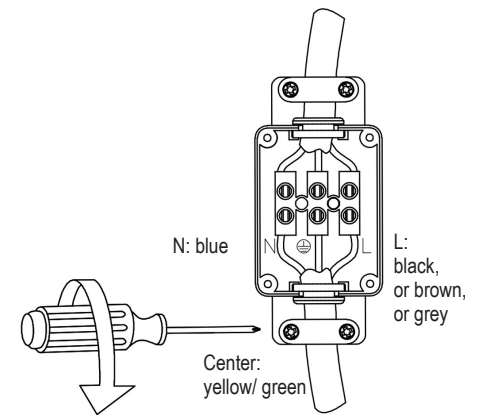

fig. 2
**fig. 2:** Prepare the cable in according to statutory regulations. Feed your underground cable through the cable gland ① and connect it in the junction box ② according to the marking. Make sure the cable is properly sealed. Tighten the 2 screws of the strain relief ③.